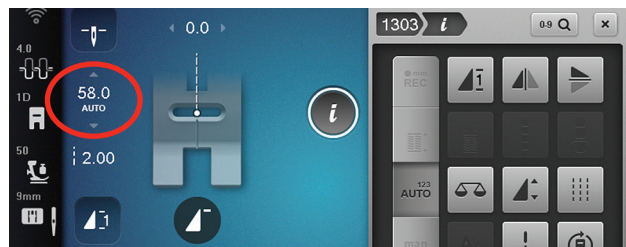

Fig. 6
6.  At the end of the seam, tap the Quick Reverse button. The Stitch Counter display, shown above the Stitch Length setting, will change to AUTO and show the length of the programmed seam (Fig. 6).